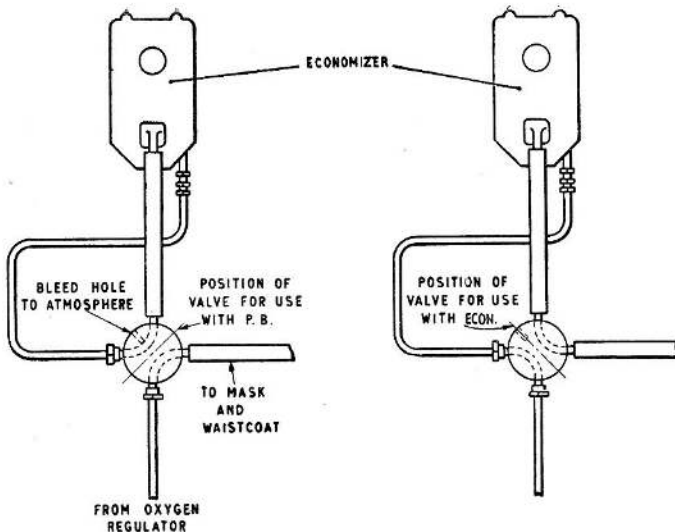

Fig. 16. Selector valve positions
34. When the handle is in the P.B. (pressure breathing) position (*fig. 16*), oxygen from the regulator flows through the selector valve direct to the Type J mask and waistcoat. The connections from and to the economizer are then isolated and virtually form a closed circuit. This condition would trap any oxygen remaining in the economizer and would damage the bag and pressure plate as the aircraft ascended and the bag pressure would consequently increase in relation to the atmosphere. To prevent such a pressure build-up occurring, a small bleed-hole is drilled through the valve body and coincides with the valve channel which interconnects the economizer inlet and outlet.